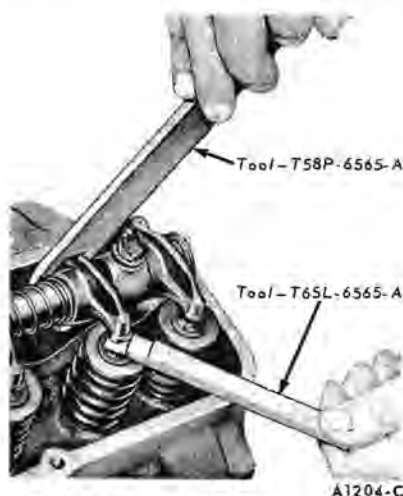

FIG. 17—390 V-8 Valve Clearance
2. Position the crankshaft as outlined in steps 3 and 4. Position the hydraulic lifter compressor tool on the rocker arm and slowly apply pressure to bleed down the hydraulic lifter until the plunger is completely bottomed (Fig. 17). Hold the lifter in the fully collapsed position and insert the clearance gauge between the valve stem and the rocker
Upon replacement of a valve push rod and/or valve rocker arm shaft assembly, the engine should not be cranked or rotated until the hydraulic lifters have had an opportunity to leak down to their normal operating position. The leakdown rate can be accelerated by using the tool shown in Fig. 17 on the valve rocker arm and applying pressure in a direction to collapse the lifter.